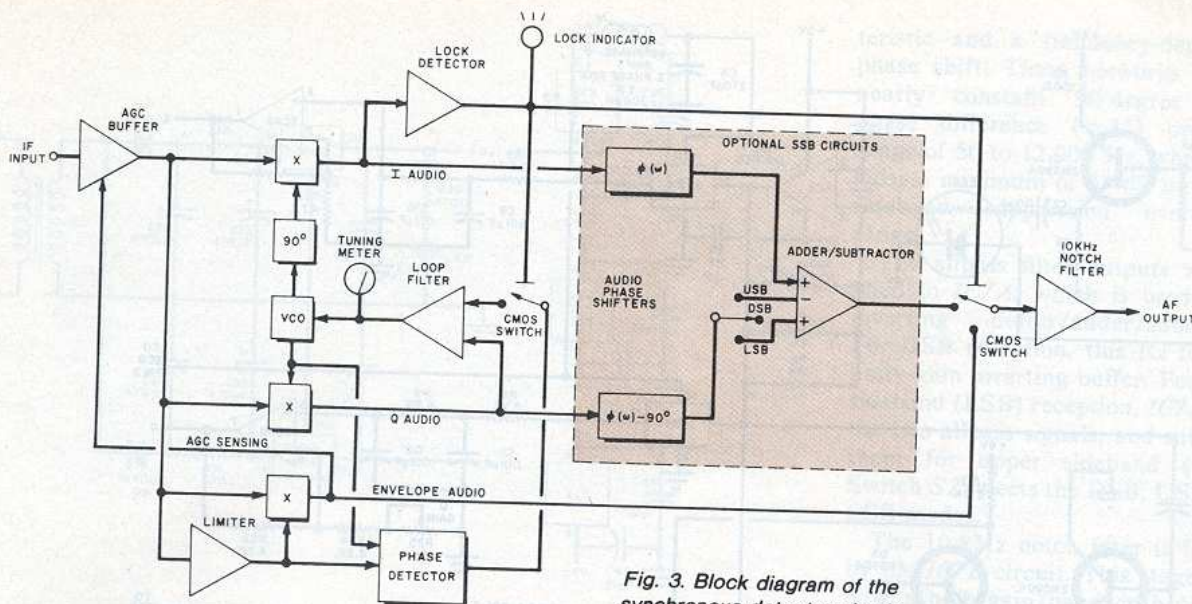
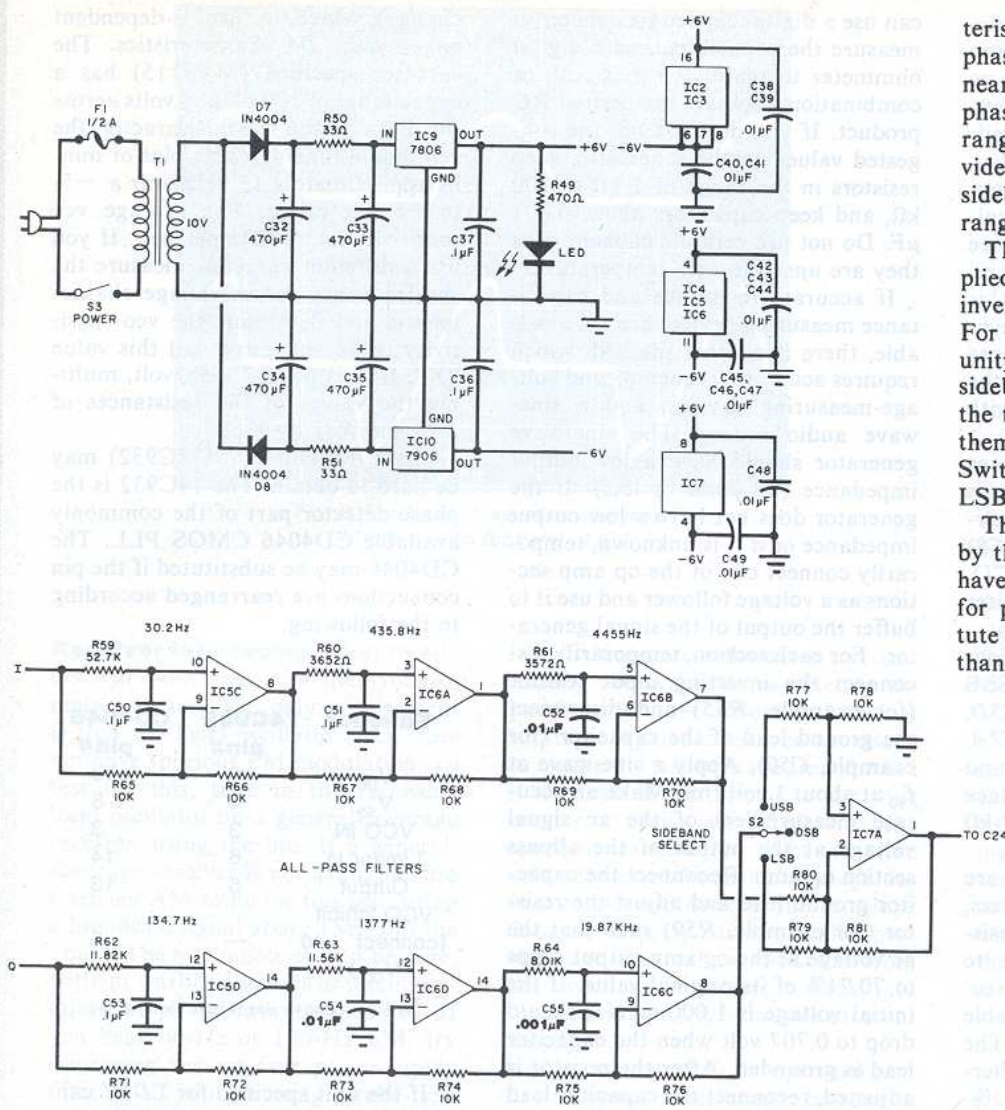

Fig. 3. Block diagram of the synchronous detector circuit.
*Fig. 4. Schematic diagram of the synchronous detector is shown above and opposite. The power-supply circuit is at top on opposite page.*
**Circuit Description.** The block diagram of a synchronous detector appears in Fig. 3. The circuit accepts a sample of the receiver's i-f (preferably taken from the last i-f stage) and a PLL is used to recover the unmodulated carrier. The circuit also provides automatic switching between envelope and synchronous detection. When the PLL is unlocked during tuning or absence of signal, the envelope detector portion provides the audio output. When the PLL locks onto the carrier, the circuit automatically switches the audio output to the synchronous detector. This action avoids audio-disturbing beat notes that would otherwise occur during tuning.
The circuit in Fig. 3 includes an optional SSB detection feature (shown within the dotted box). With the addition of audio phase-shift networks, it is possible with synchronous detection to receive SSB, or just one sideband of a DSB signal. This technique is usually used as a SSB generation method, but works equally well for reception. The circuit also includes a notch filter to remove any audible 10-kHz beats produced by adjacent channel transmitters. The complete schematic is shown in Fig. 4.